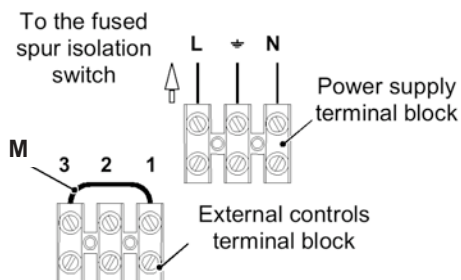

Fig. 6.16
- Connect the electrical supply flexible cord coming from the fused spur isolation switch to the power supply terminal block of the boiler (Fig. 6.16) keeping the same connections for the live (brown wire) and the neutral (blue wire). External 3 A fuse
When connecting any type of external control, the link M in Fig. 6.16 must be removed.